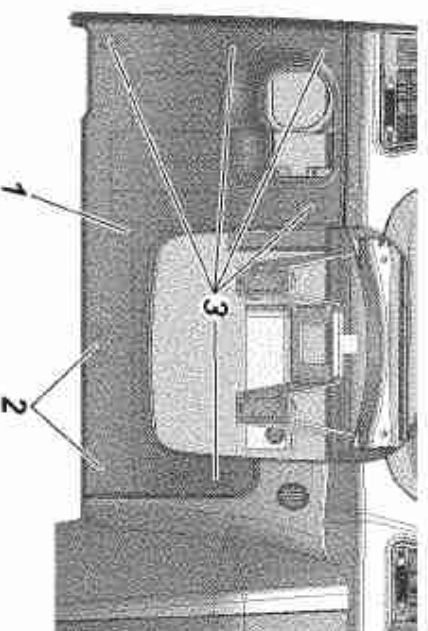

Fig. 9.30. Installation of Relay / Fuse Box cover:
- disengage the two latches 2 (Fig. 9.30) located in the lower part of the box cover from the back side of the box;